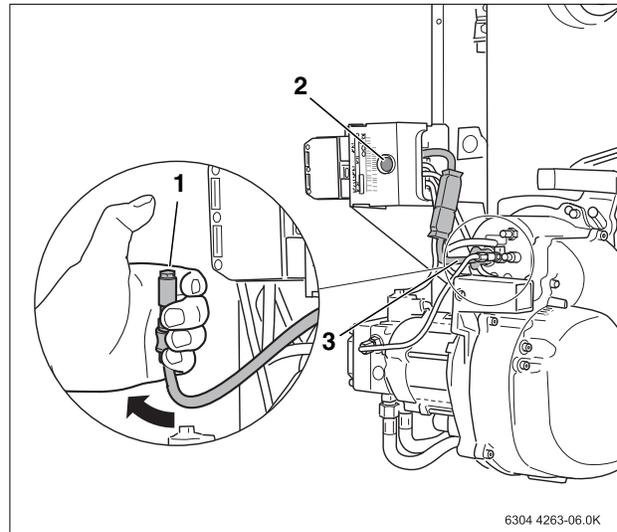

Fig. 18 Check function of flame sensor
- Pull flame sensor out of the retainer by the handle with the burner operating (Fig. 18, **Item 3**).
- Hold flame sensor against a light source (Fig. 18, **Item 1**). It must shut off immediately, then lock out after restarting.
- After waiting for about 30 seconds, reset the automatic burner controller by pressing the reset button (Fig. 18, **Item 2**).